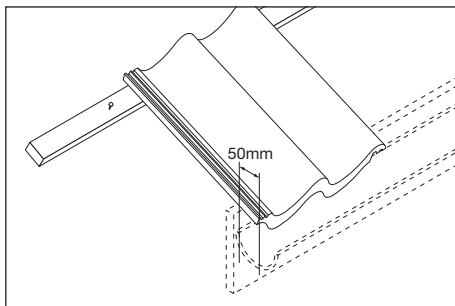

Fig. 2 – Measuring tile overhang into gutter
- 2 The eaves batten should be set to ensure that the tail of the tile extends over the fascia board by no less than 50mm on the rake (Fig. 2).